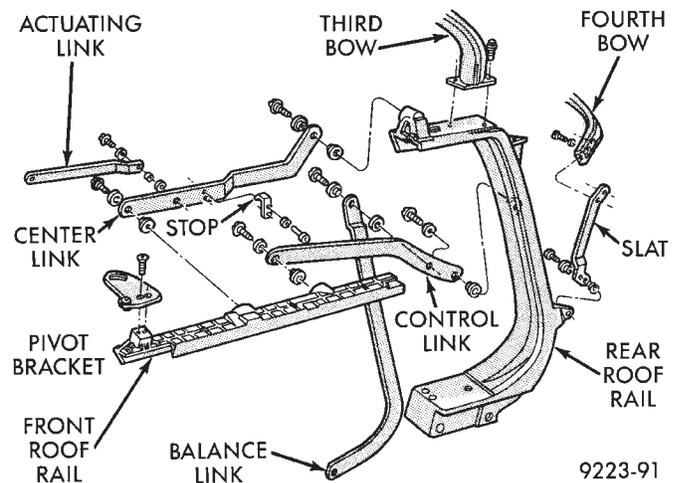
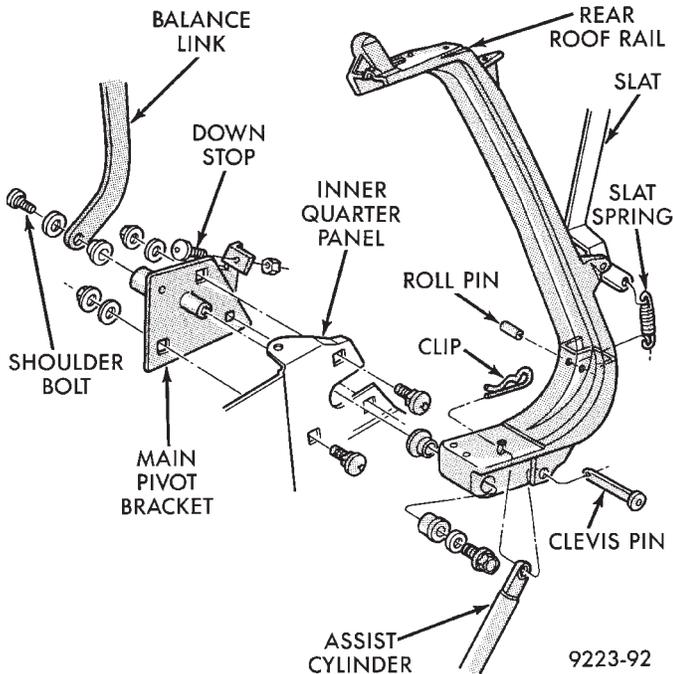

Fig. 12 Roof Rails and Linkage
Fig. 13 Rear Roof Rail
- (1) Lower rear window glass. position glass flat on the bottom of the sling well.
- (2) Lower convertible top halfway down.
- (3) Remove pivot bolts and bushings holding fourth roof bow slat to rear roof rail (Fig. 12).
- (4) Remove tension spring from between rear roof rail and fourth roof bow slat (Fig. 13).
- (5) Remove shoulder bolts holding fourth roof bow to slat.
- (6) Separate bow from slats (Fig. 12).
- (7) Allow roof bow to drop downward.
(8) Tip bow toward interior of vehicle and away from top cover.
(9) Lower convertible top enough to allow to loosen around fourth roof bow.
(10) Locate feature strip insert at end of bow. Slide feature strip to the side and separate strip from bow. Do not damage foam filler strips attached to fourth bow.
(11) Separate top cover from fourth roof bow.
(12) Remove rivets holding rear window retainer to fourth roof bow.
(13) Separate retainer from bow.
(14) Mark location of stay pads and rear window zipper apron to aid installation.
(15) Remove staples holding stay pads to fourth roof bow.
(16) Remove staples holding rear window zipper apron to fourth roof bow.
REMOVAL (FIG. 12)
REMOVAL (FIG. 13)